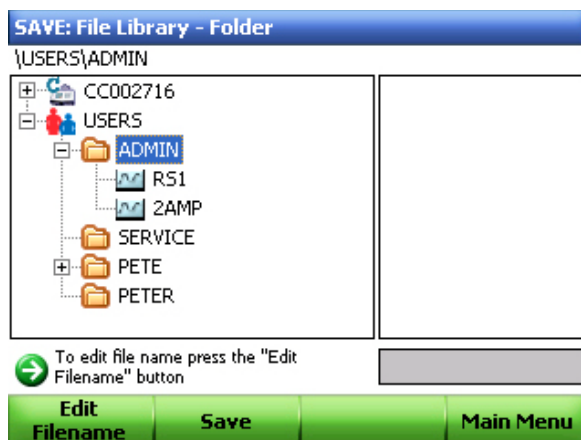

Figure 40. Saving a protocol.
2. Enter a protocol name if you have already not done so or edit the name previously created in the Protocol window. Use arrow keys to select a destination folder (Figure 40).